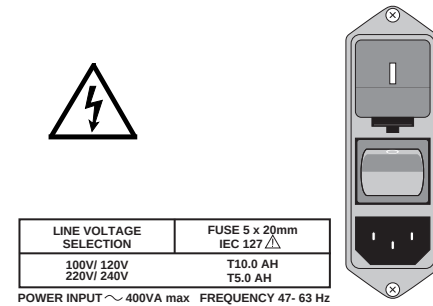

**Fig. 2.1 Option 90 — Rack Mounting Kit — Fitting**
#### 2.7.1.2 Option 90 — Rack Mounting *(Fig. 2.1)*
Option 90 permits the instrument to be mounted in a standard 19 inch rack. The method of fitting this option is described below, the locations being shown in *Fig. 2.1*.
- a. Fit the eight M6 cage nuts into the correct cutouts at front and rear of the rack (*see Fig. 2.1*). Squeeze the cage on each nut and insert from the inside of the rack.